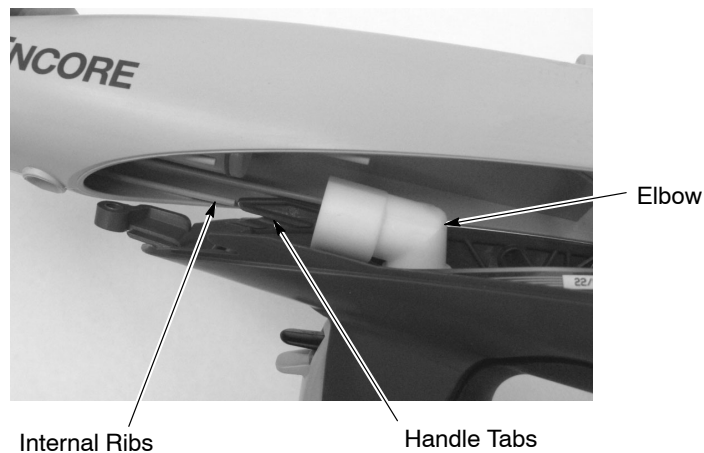

Figure 6-5 Installing the Gun Body on the Handle
1. See Figure 6-5. Align the gun body with the handle and slide them together, engaging the internal ribs of the gun body with the handle tabs.